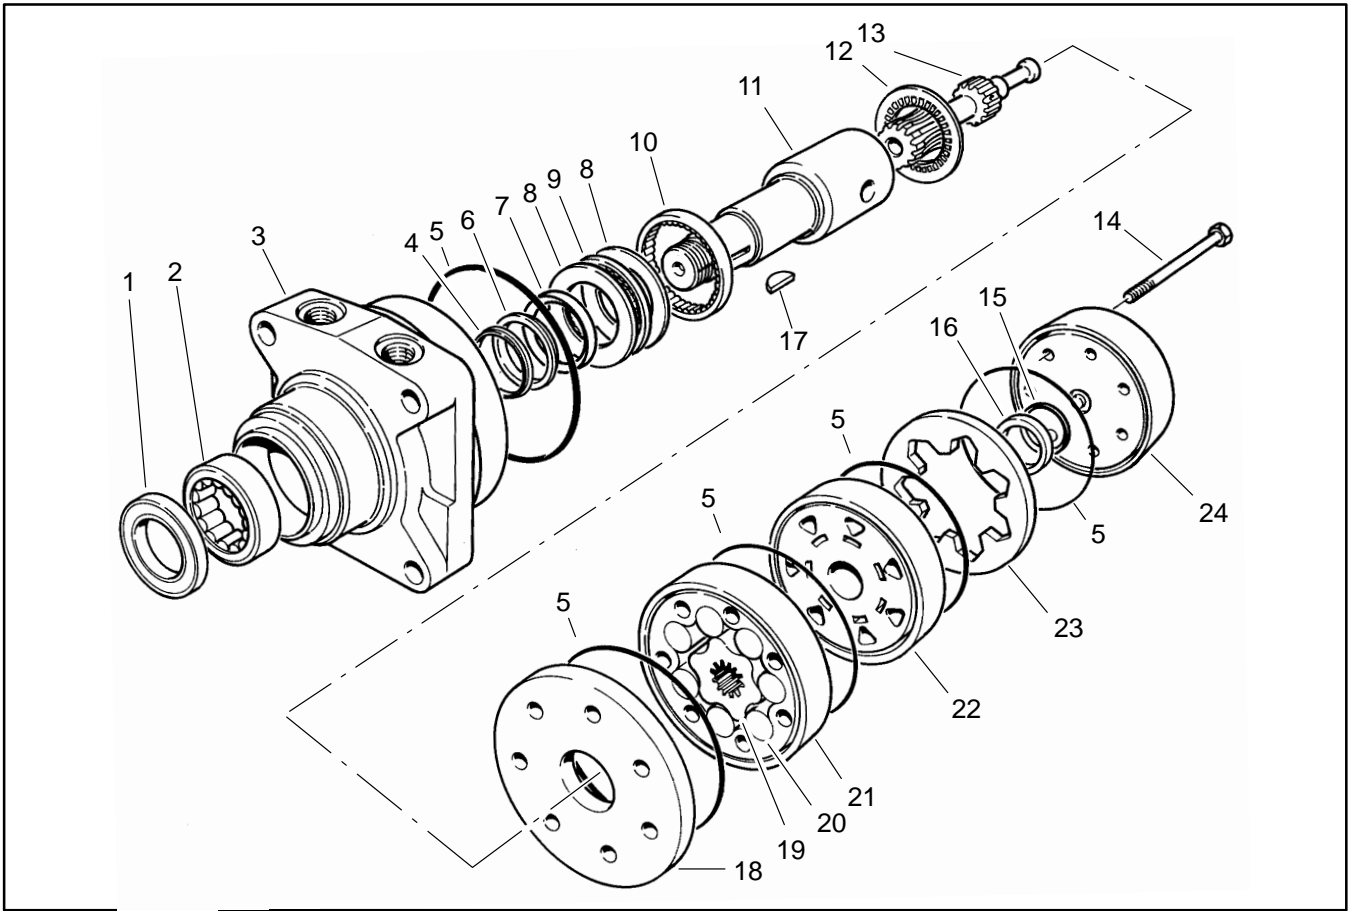

Figure 28
**Wheel Motor Disassembly (Fig. 28)**
## Wheel Motor Inspection (Fig. 28)
## Wheel Motor Reassembly (Fig. 28)